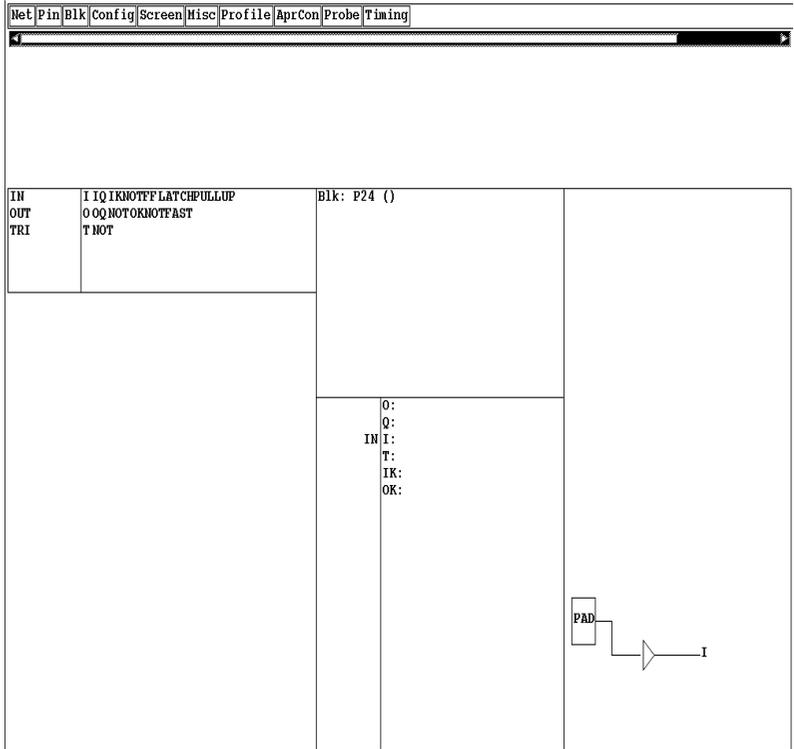

Figure 9-32 IOB Configured as an Input Pin
- Make sure that block P24 resembles Figure 9-32 as follows: